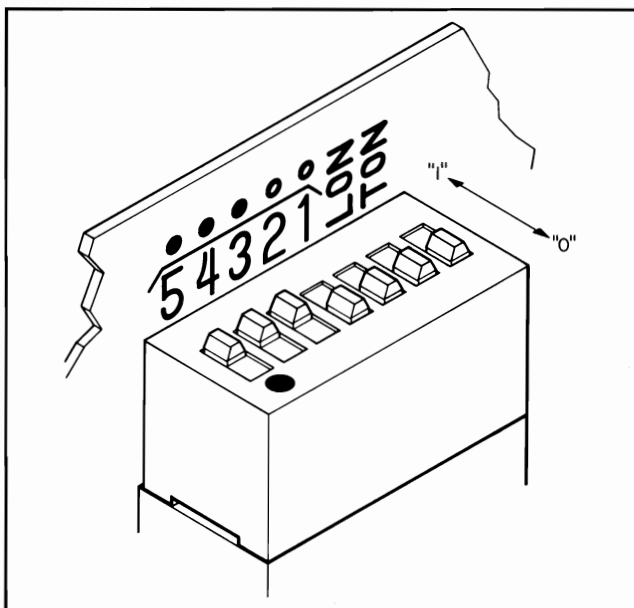

Figure 2-3. The HP-IB Address Switch Shown as Set by the Factory. The Address Shown is 11100 in Binary with Both Talk Only and Listen Only Off.
- e. Use a pencil to set the switches to the desired HP-IB address and Talk Only (TON) or Listen Only (LON) condition. The switch is illustrated in Figure 2-3. Facing the board, the left hand switch (marked with a “5”) is the most significant address